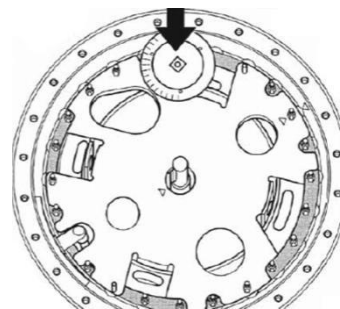

Figure 19
- (2) Remove the tap position indicator disc (pull the open spring retainer ring from the shaft end) (Fig. 19).